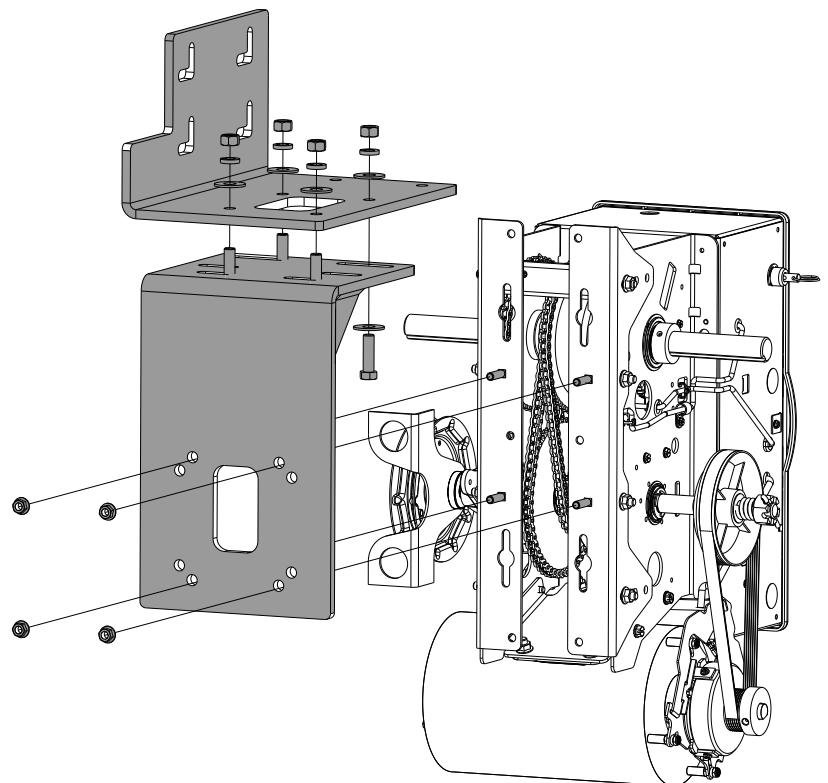

Fig. 15
3. Attach operator to bench mounting bracket using the four 5/16"- 18 X 1-1/4" carriage bolts, hex nuts, and lock washers provided. Fig. 15
4. Attach front of hood bracket to bench mount bracket using hardware provided. Fig. 15